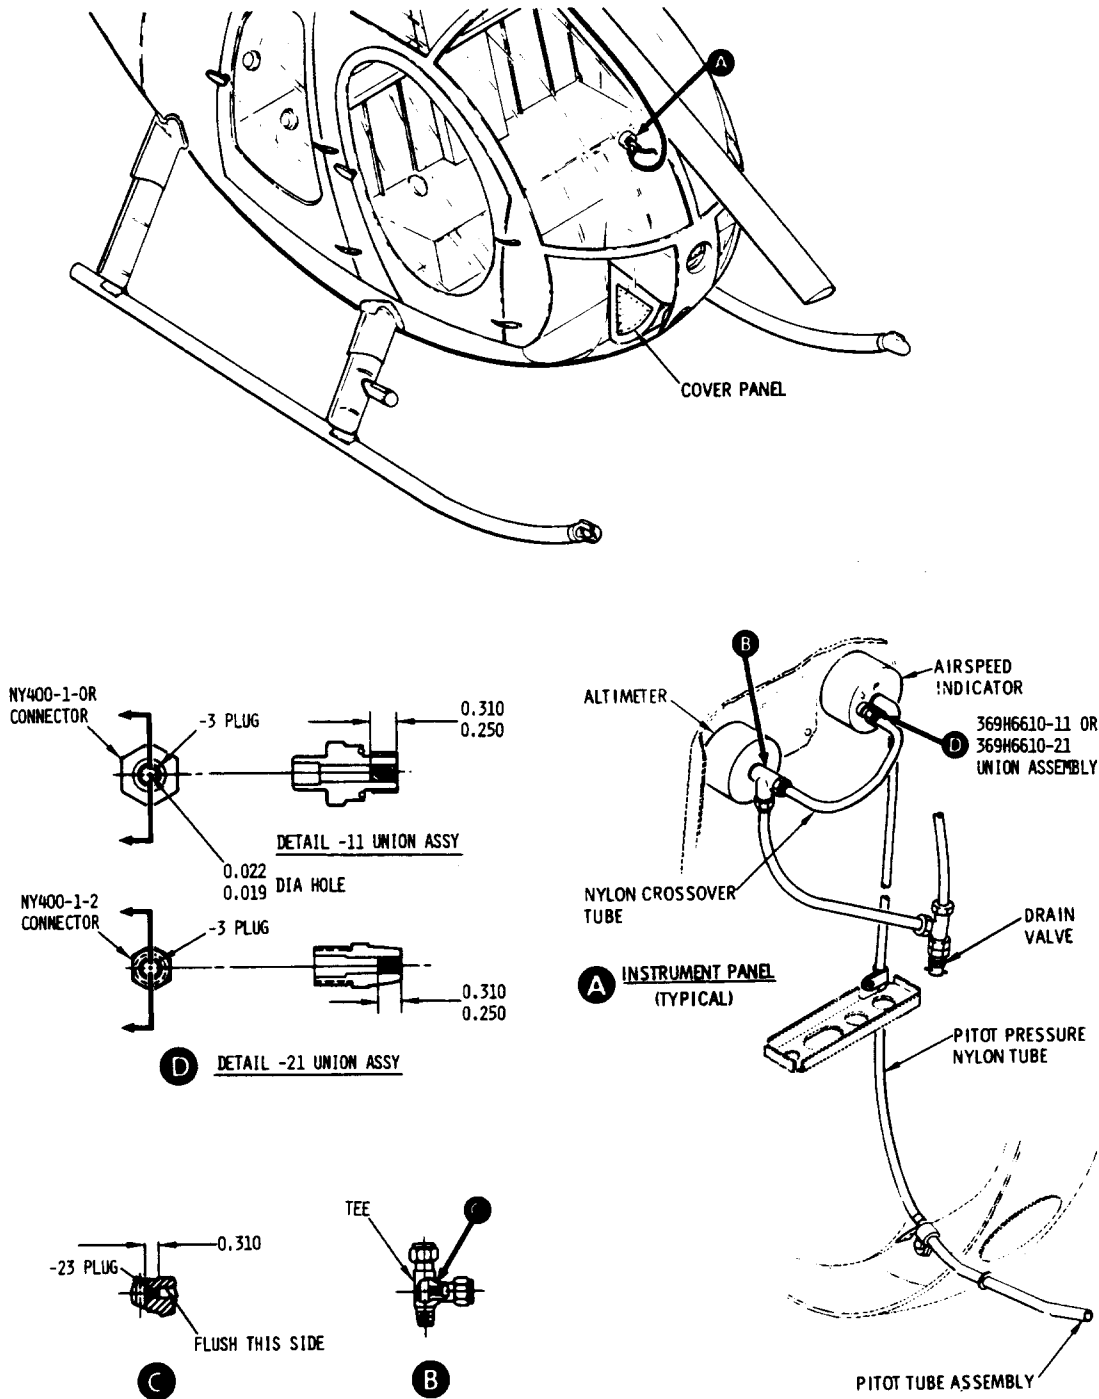

Figure 1. Rework of Static Pressure Tube Installation
- c. Disconnect drain tube from 369H6628 tee at altimeter indicator. (See Figure 1.)